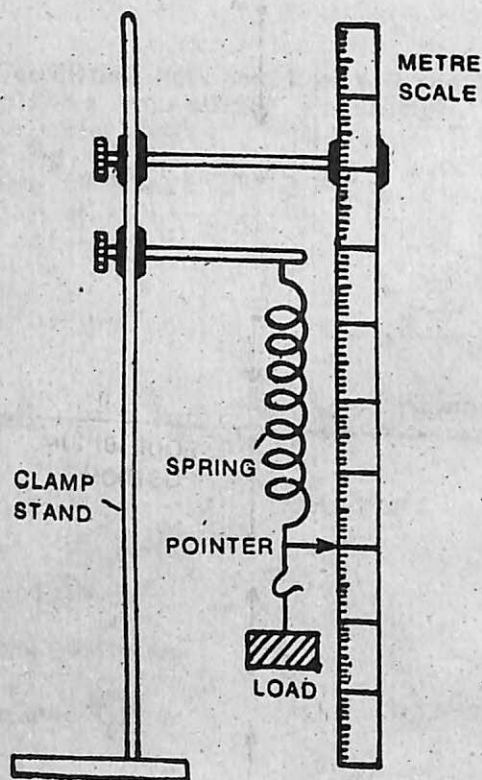

Fig. 35.3.
1. Set up the apparatus as shown in Fig. 35.3.
3. Pull the weight down through a small distance and let it go. The mass suspended by the lower end of the spring would start executing vertical oscillations. Find the time for say 10 oscillations with the help of stop-watch and then calculate its time-period (T) and hence find the spring constant (k) of the helical spring from the formula